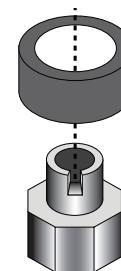

FIGURE 3
- Install magnet sleeve as shown in FIGURE 3. Install magnet sleeve over distributor shaft, onto point cam. Rotate sleeve until a slight locating position is felt before applying pressure. With sleeve lined up on point cam, press down firmly insuring sleeve is fully seated.